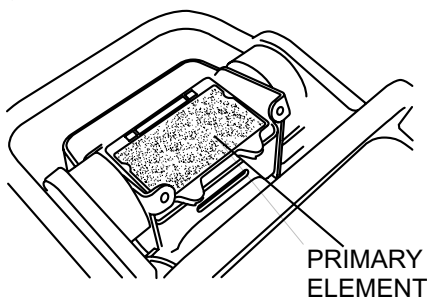

Figure 11. Air Cleaner Primary Element
- Remove the air cleaner cover. Loosen and remove the 2 screws that hold the cover to the air cleaner assembly. If the primary element (Figure 11) is dirty, wash it with gasoline or kerosene. Then dip it in engine oil (SAE10W-30) and wring the element so that 25 to 30 cc of engine oil remains on the element.